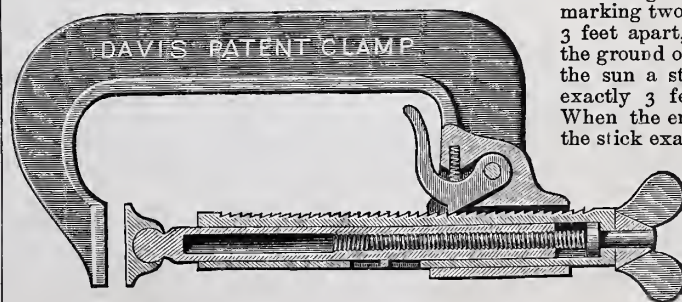

Fig. 15.—New Form of Clamp.
F. Armstrong, of Bridgeport, Conn., is manufacturing a new form of clamp, known as the Davis patent clamp, a sectional view of the working parts of which is afforded by Fig. 15 of the illustrations. In its general features and in the results accomplished it